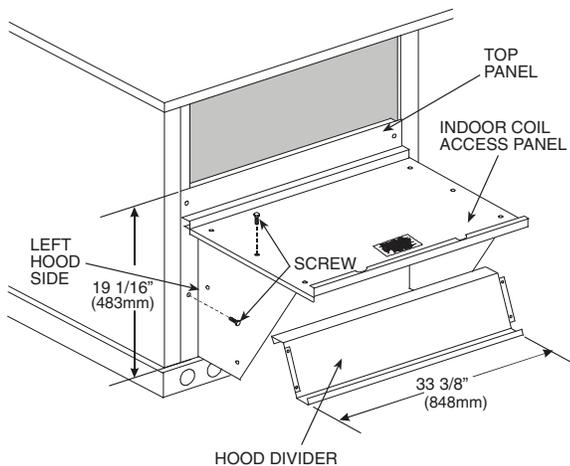

Fig. 17 — Economizer Hood Construction
- Swing out indoor coil access panel and insert the hood sides under the panel (hood top). Use the screws provided to attach the hood sides to the hood top. Use screws provided to attach the hood sides to the unit. See Fig. 17.
- Insert the hood divider between the hood sides. See Fig. 17 and 18. Secure hood divider with 2 screws on each hood side. The hood divider is also used as the bottom filter rack for the aluminum filter.